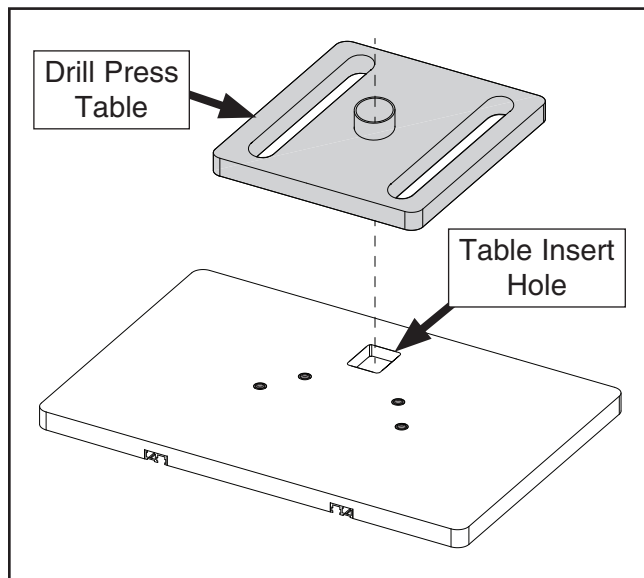

Figure 5. Drill press table centered on Model T32710 table.
5. Line up center of drill press table with center of Model T32710 table insert hole (see **Figure 5**).